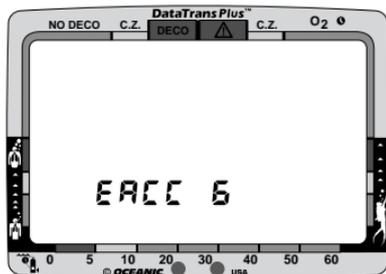

Fig. 84 - EACC Countdown
3. If you are not going to download information, press the Advance/Left button once to return to the Surface Mode. If you press the Select/Right button once, the letters EACC will appear with a countdown from '8' to '0' (Fig. 84). After counting down to '0', the DataTrans Plus will revert to the Surface Mode.